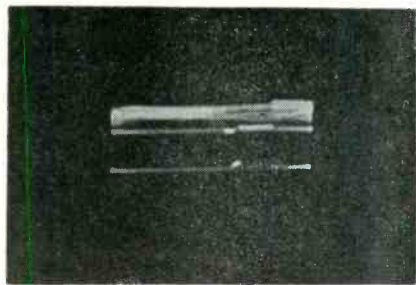

Fig. 1—Video waveform with evident signal compression.
**A.** This situation, which leads to white saturation of the picture, is shown in Fig. 1. To determine the amount of picture compression, a d-c scope should be used. The resting position of the scope trace, when no signal is applied, indicates the zero-